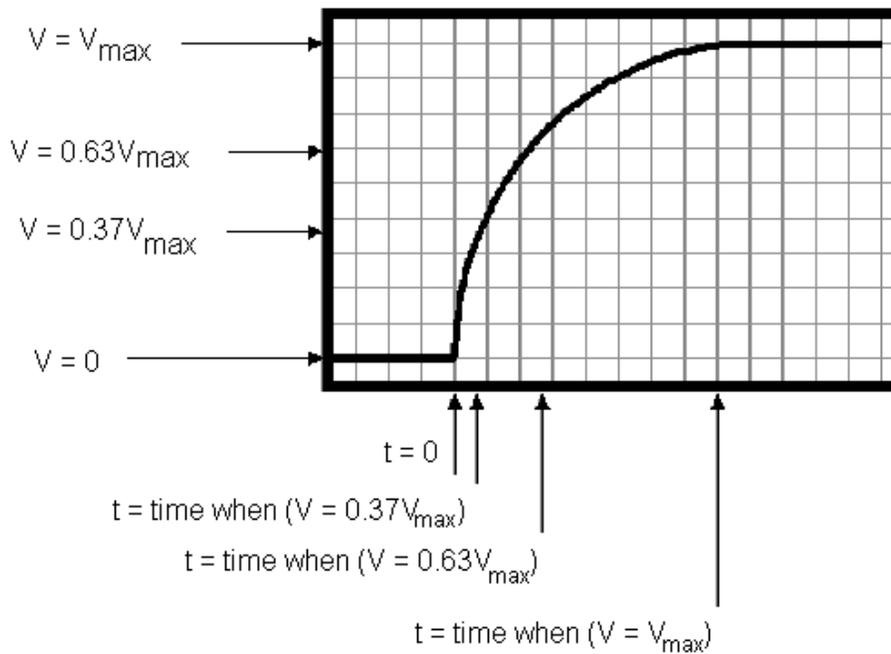

Figure 3. A Charging Capacitor
4. Turn on the scope and the function generator. Increase the amplitude on the function generator to about half of the maximum. Adjust the *gain* (volts/div) and the *sweep* (time/div) knobs on the scope until you see a trace that looks something like Fig. 3. It may be necessary to fine-tune the “trigger level” setting to get a clear display. Be sure that you can see the point corresponding to  $t = 0$ . Adjust the *vertical* shift knob on the scope and the amplitude knob on the function generator until the maximum and minimum voltage levels of the trace are aligned with the top and bottom horizontal grid lines (graticules) on the screen. Shift the *horizontal* position of the trace until the beginning of the charging or discharging curve lines up with a vertical graticule. This alignment with the grid lines makes it much easier to read measurements from the scope. Have your instructor check your display before you go further.